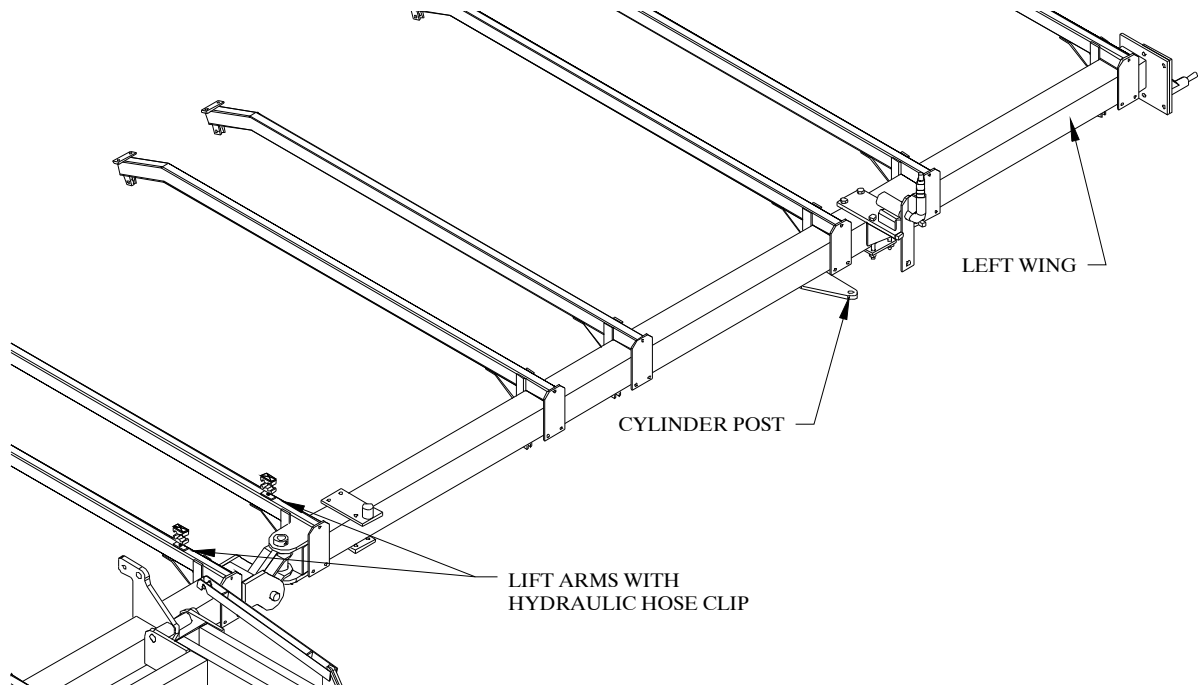

Figure 10
*NOTE: Be sure the wings are orientated correctly. Both wings are marked left hand and right hand and a visual reference can be made by looking at Figure 10.
2. Center a lift arm on each of these marks and secure using two ½” x 11” bolts, lock washers, and hex nuts for each lift arm. Refer to Figure 10.